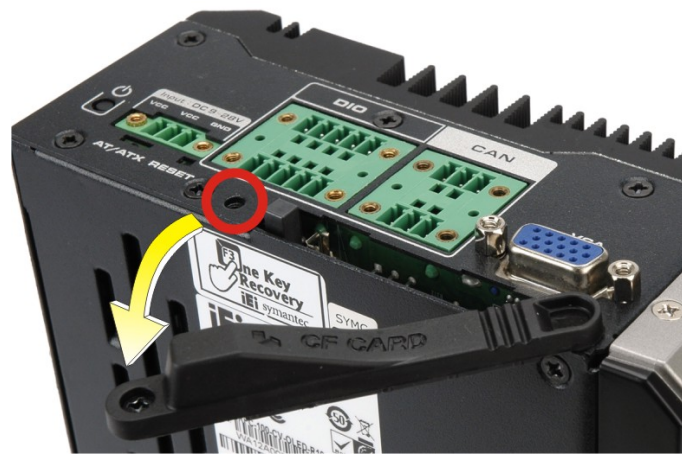

Figure 3-1: CF Card Slot Cover
Step 2: Release the retention screw that secures the CF card slot cover, and then open the cover as shown in **Figure 3-1**.